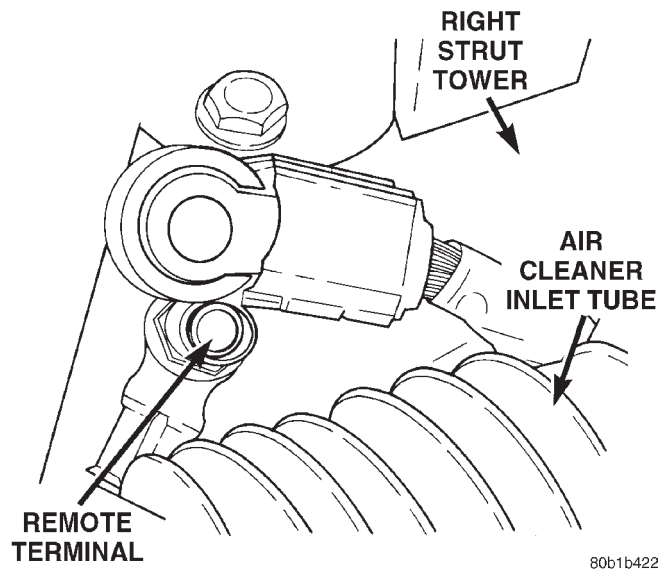

Fig. 5 Negative Battery Cable Remote Terminal
(1) Open hood and disconnect the negative battery cable remote terminal from the remote battery post (Fig. 5).